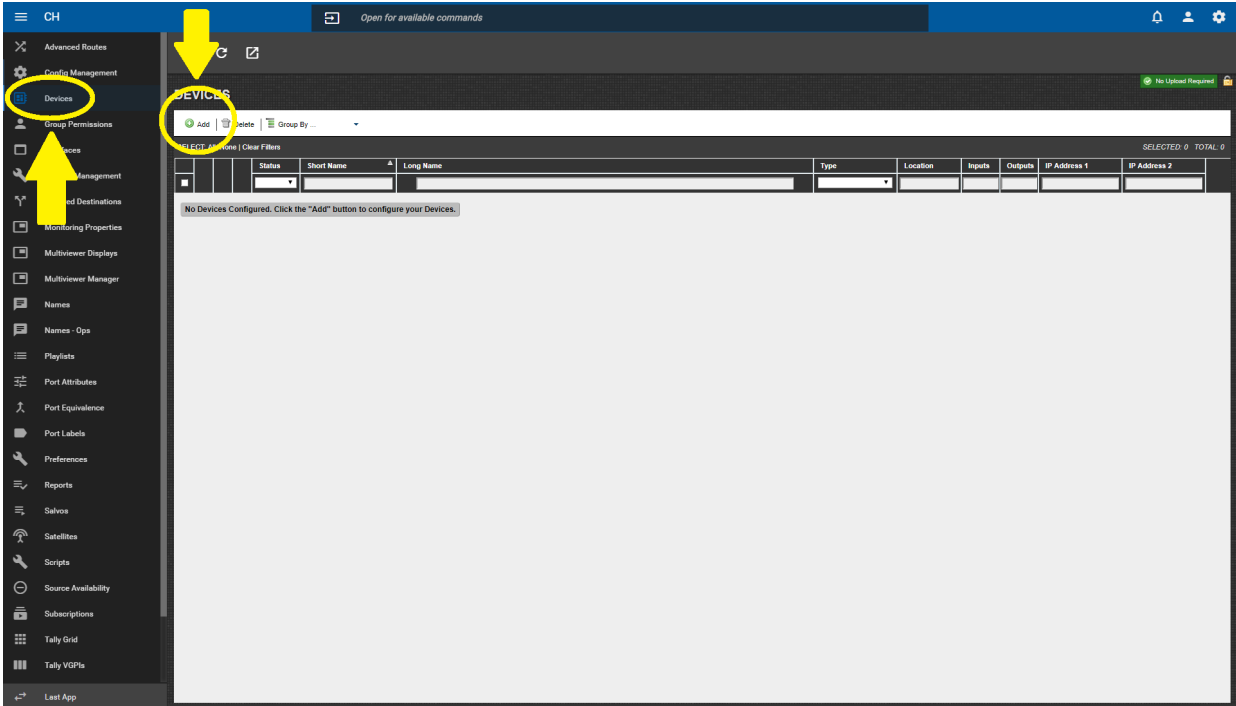

Figure 9-4 : MAGNUM - Devices Page
5. Navigate to the Devices page and click “Add”, in order to select the proper device (Figure 9-4).